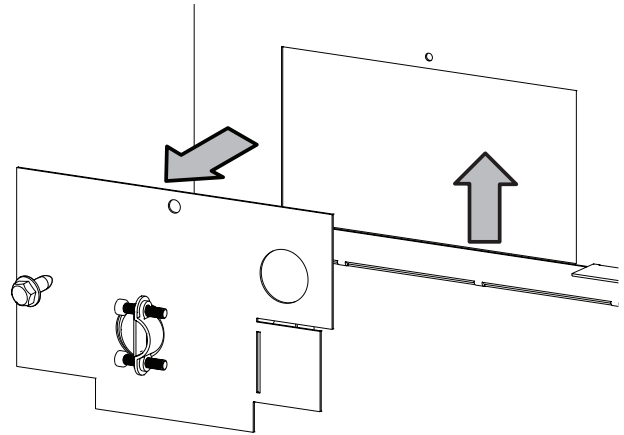

Figure 11
- Connect the wire harness from the light kit to incoming power from the wall switch inside the junction box. See Junction Box Wiring Instructions and Figures 11 and 12.
- Remove the electrical access cover panel from the left end of the fireplace. See Figure 11.
- Re-install the junction box and electrical access cover panel onto the firebox using the screw removed in step 1. See Figure 11.